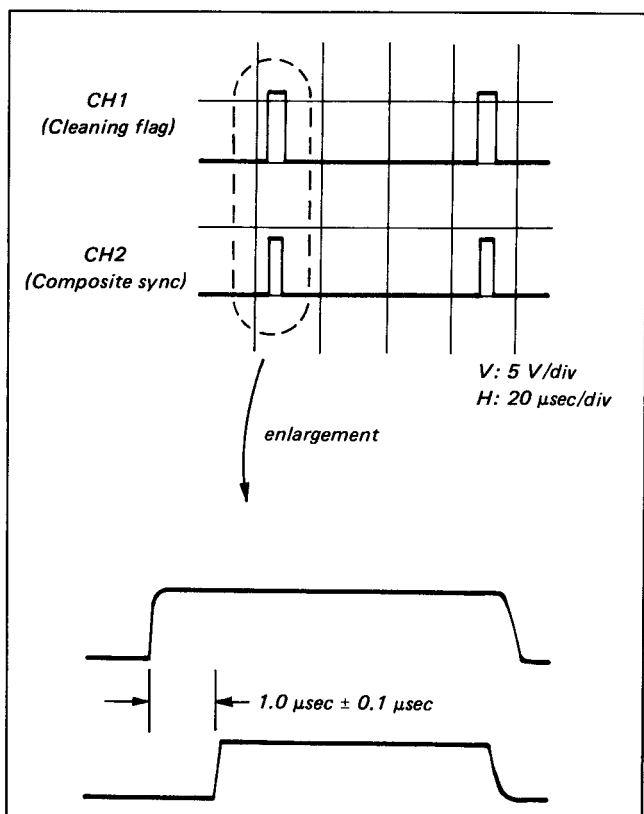

Fig. 5-30. Cleaning flag adjustment
- i) Adjust to $1.0\mu sec \pm 0.1\mu sec$ with RV006. (See Fig. 5-30.)